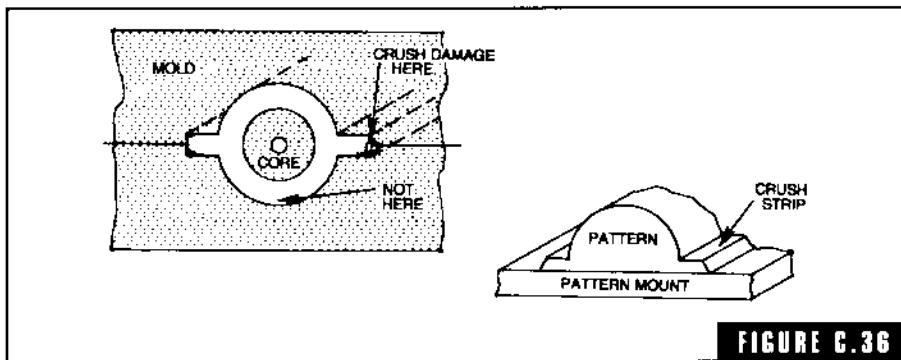

FIGURE C.36
**crush strip** A strip around a large pattern that prevents the matching edges of a mold cavity from crushing when they meet (Fig. C-36). An intentional flash around the casting. Used on large castings where the cope, due to its weight, could twist or sag, preventing the cope from coming down on the drag evenly at all points.